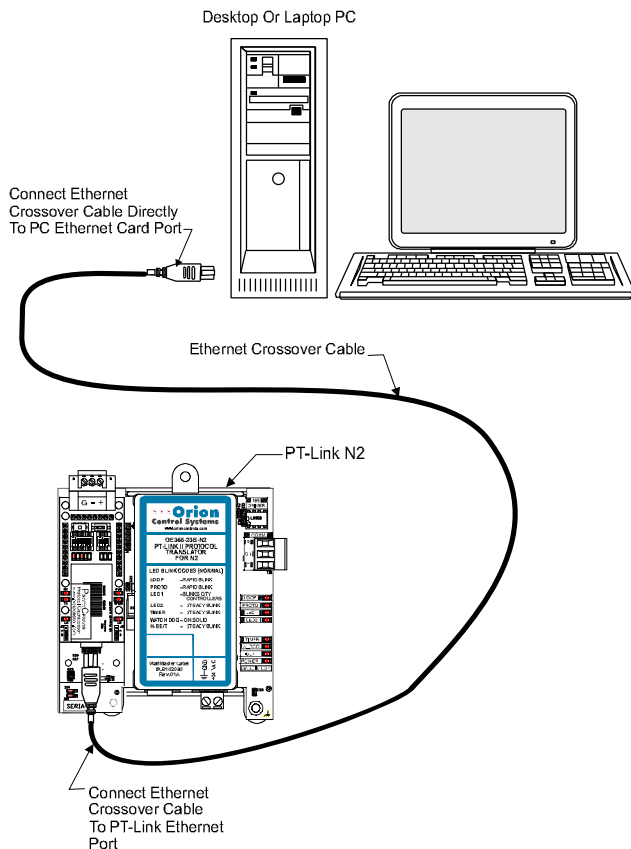

Figure 3: Connecting With Crossover Cable
5. Connect your PT-Link II to your computer using an Ethernet connection (**Figures 3 & 4**).
- 1.) You may connect the PT-Link II directly to your PC by using a crossover cable (by others) as shown. See **Figure 3** for details.